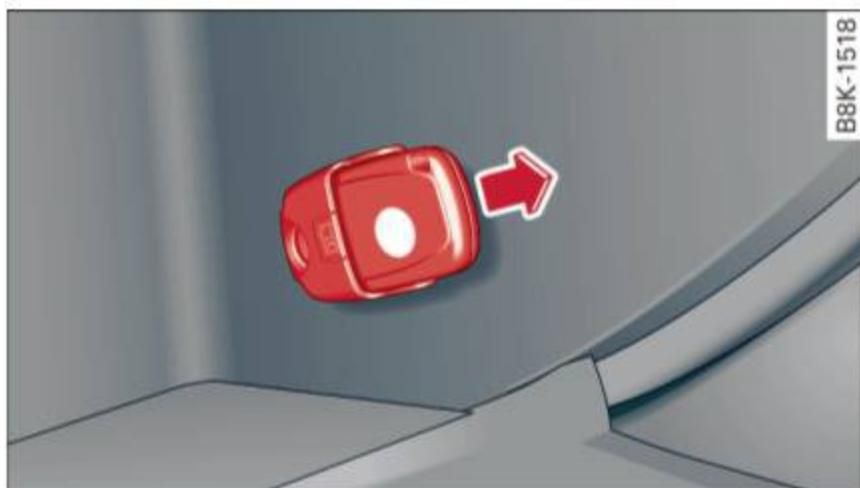

Fig. 78 Glove compartment: Adapter for emergency key
- ▶ Take the adapter for the emergency key out of the glove compartment ⇒ *fig. 78*.